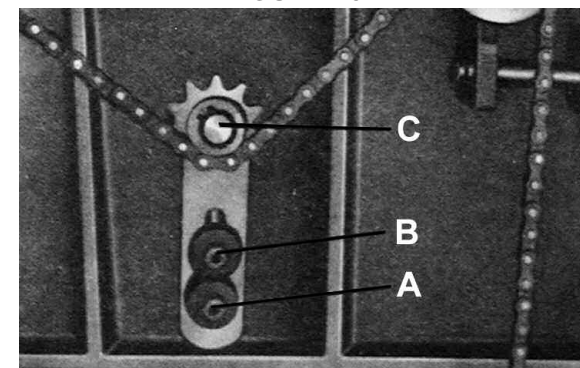
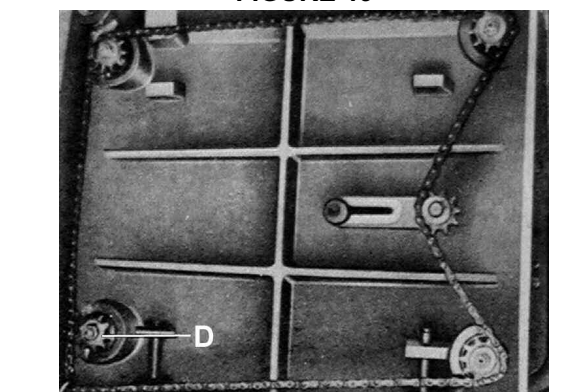

FIGURE 19
FIGURE 20
2. Tilt planer on its side to expose the underside of the base as shown in Fig. 19.
3. Remove cap screw (A) and loosen cap screw (B) Fig.19, these two cap screws will allow you to move the idler sprocket assembly (C) far enough to release tension on the chain as shown in Fig.20.
4. Remove chain from the sprocket from the corner which needs adjusting. Fig.20 shows the chain removed from the sprocket (D).
5. Turn sprocket (D) by hand to bring that corner into adjustment with the other three corners.
**IMPORTANT NOTE:** Turning sprocket (D) clockwise will increase the distance between the work table and the head casting, counter-clockwise will decrease the distance. This adjustment is very sensitive and it should not be necessary to turn the sprocket more than one or two teeth.